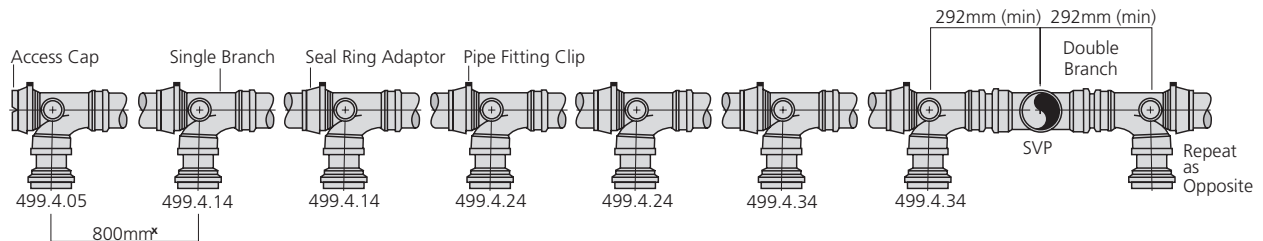

Fig 4
- 5) Low level WC manifolds incorporate seal ring adaptors at each branch connection to compensate for expansion and also allow the branch to be 'turned' to the correct angle to allow connection to the WC (fig 4).